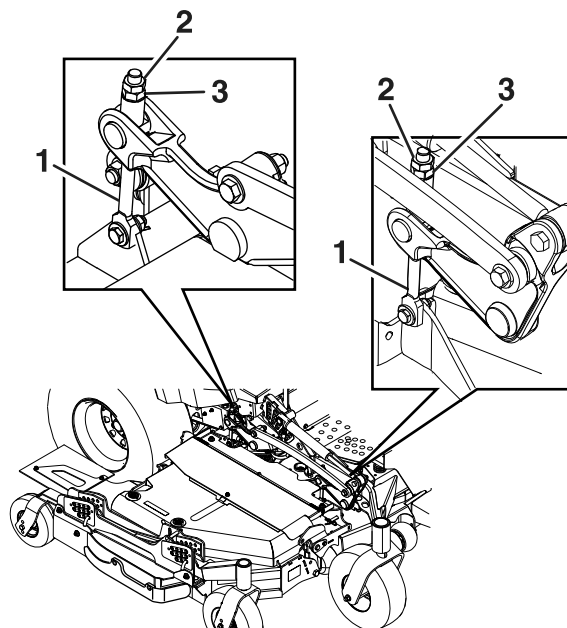

Figure 73
Loosen the jam nuts on the top of each deck adjuster. Fine-tune the adjuster on the front deck-lift assembly by turning it to get the correct height for the left and right, front blade tips on the center deck (Figure 73).
5. If the 4 deck adjusters (Figure 73) do not have enough adjustment to achieve the accurate
6. To adjust the single-point system, first loosen the front and rear height-of-cut plate mounting bolts (Figure 73)